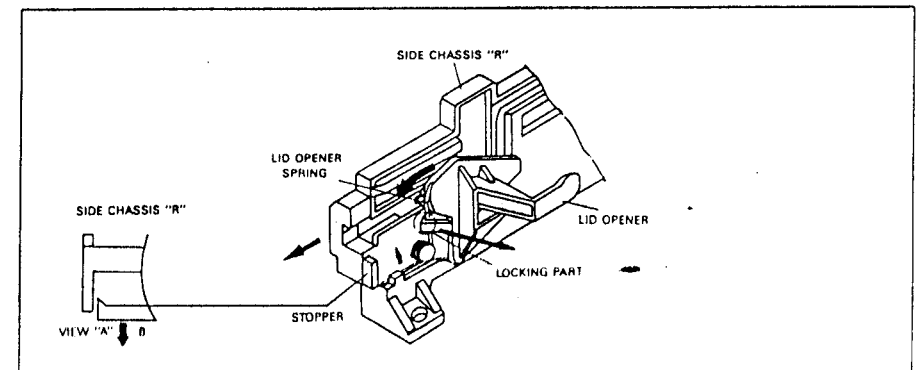

Fig. 17 Lid Opener Removal
7. Lid opener removal (Fig. 17)